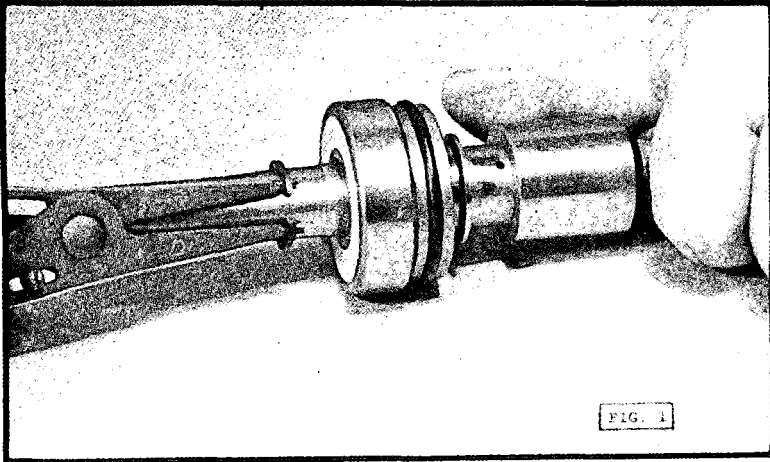

FIG. 1
1. Grip power rotor as shown in Fig. 1. Use standard external snap ring pliers and remove snap ring (021) adjacent to bearing.
1. Clean seal retainer (023). Carefully install lip seal (025) and 'O'ring (024) shown in sketch (A).
2. Clean wear ring (014) and power rotor (010).
3. Lubricate wear ring with clean light lubricating oil. Install seal assembly with a slightly twisting motion on the wear ring as shown in Fig. 1.